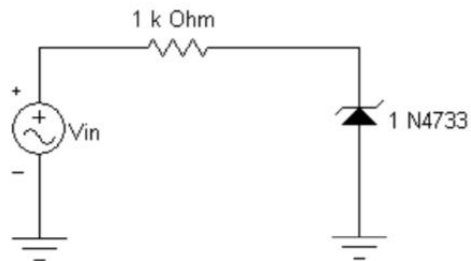

Figure 2
- 1- Build the limiter circuit shown in Figure 2.
12-Describe below your observation on the data obtained for Figure 2 through Figure 4.